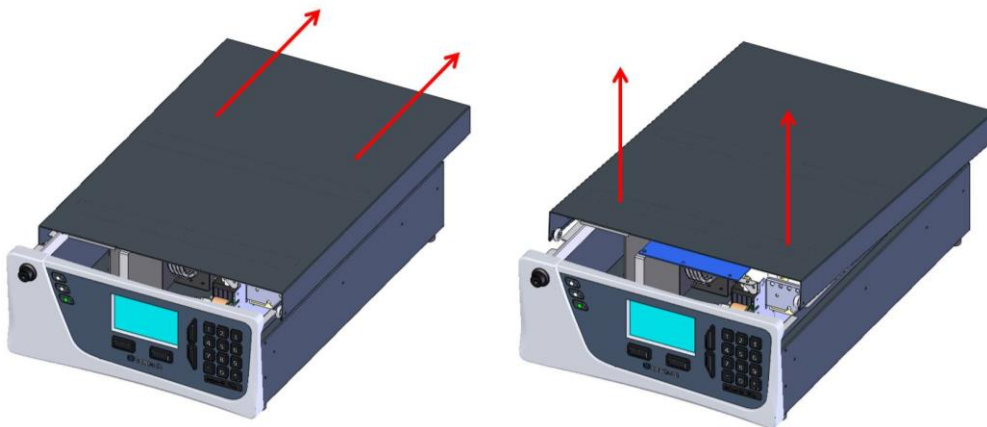

Figure 3 – Opening the instrument
3. To completely remove the lid, slide the lid backwards until the rollers line up with the gaps in the track and pull the lid upwards to remove from the instrument (refer to Figure 3).